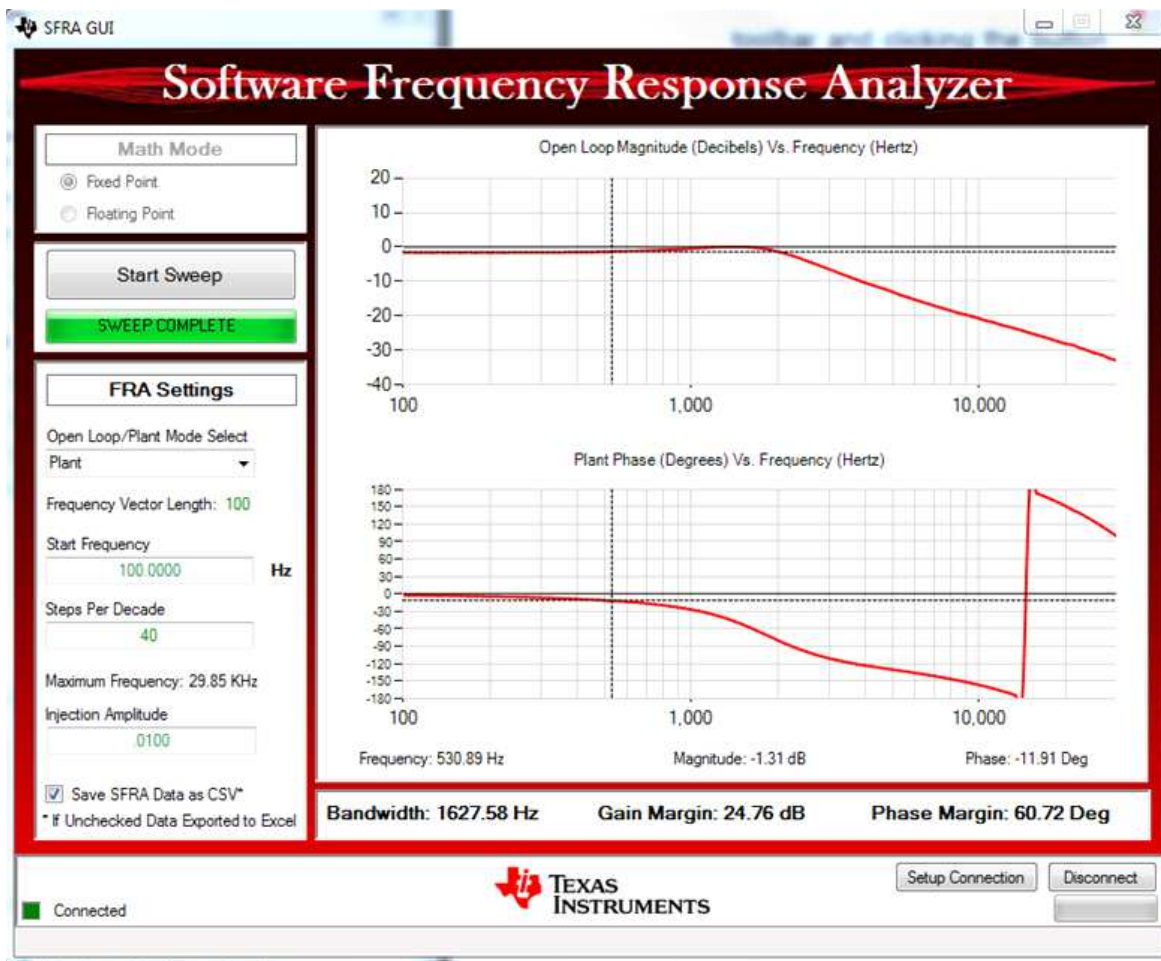

Figure 25. Plant Frequency Response Plot
35. The results of the SFRA sweep are now displayed on the window. The open loop graph result has no meaning as the plant is not in in closed loop operation. Therefore, select Plant in the drop down menu to the left. Once Plant is selected in the drop down menu, the GUI will look similar to Figure 25.